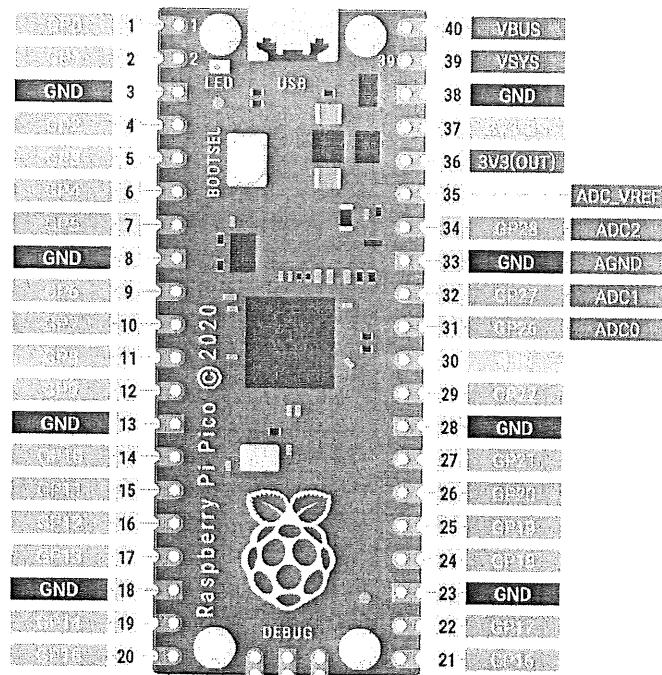
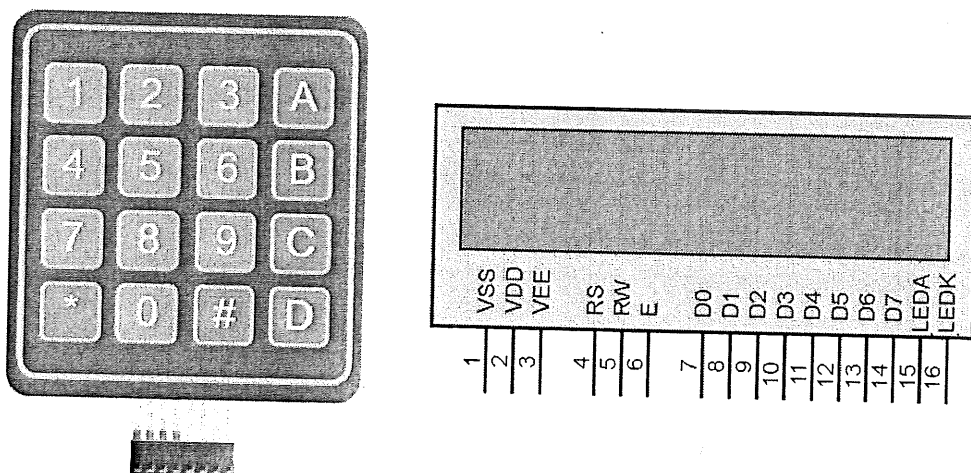

Figure 2: Pi Pico pin out
Figure 3: keypad and LCD
- i. Produce schematic diagram for LED connection. Refer to figure 2 for the raspberry pi Pico pin out.
- i. Referring to the LCD and keypad in figure 3, produce the wiring diagram between these devices and the Pi Pico microcontroller. For Pi Pico pin out, refer to figure 2 in question 2. (10 marks)